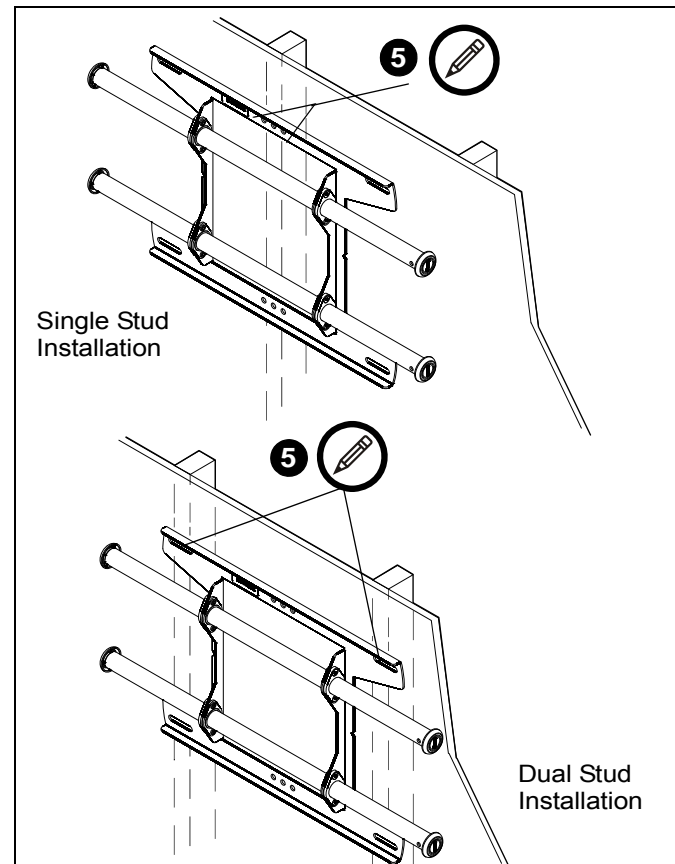

Figure 2
5. Using a level, mark the wall on each stud to attach the wall bracket (R) through the upper mounting slots. (See Figure 2)
NOTE: The MSA and MTA may be attached through the mounting slots on dual studs, or through the center mounting holes on a single stud. (See Figure 2)